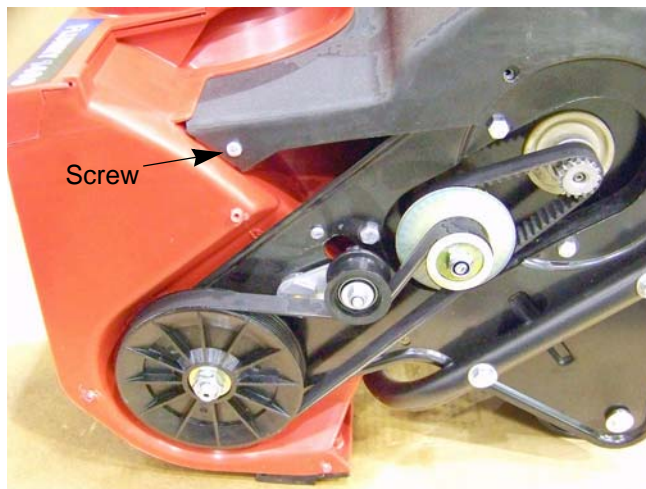

Figure 4.19
3. Remove the screw that holds the front left corner of the motor cover to the auger housing using a #2 phillips screw driver. See Figure 4.19.